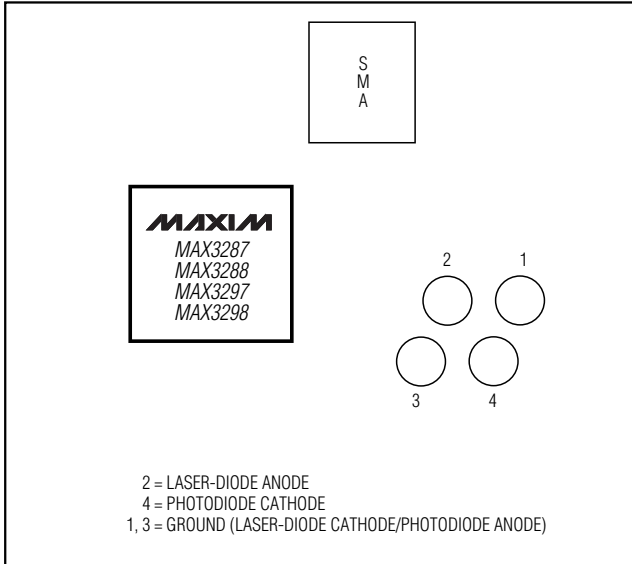

Figure 1. Optical Connection Diagram
- 2) Make sure nothing is installed in the laser socket (Figure 1).
- 4) Connect a laser to the board (Figure 1).